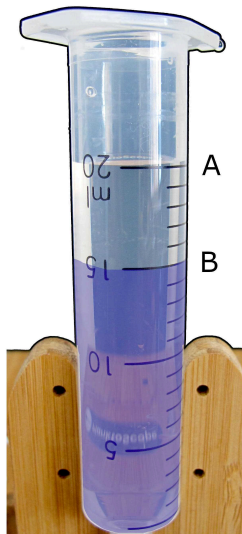

Figure 1: Example of volume pumped (purple) during a pump calibration
4. Once the pump is over, measure the exact volume pumped (volume between A and B in Fig.1)
For example, in Fig.1: Volume pumped = A - B = 20 - 15 = 5 mL. There is then an error in the calibration and we need to update the pump step according to this error.